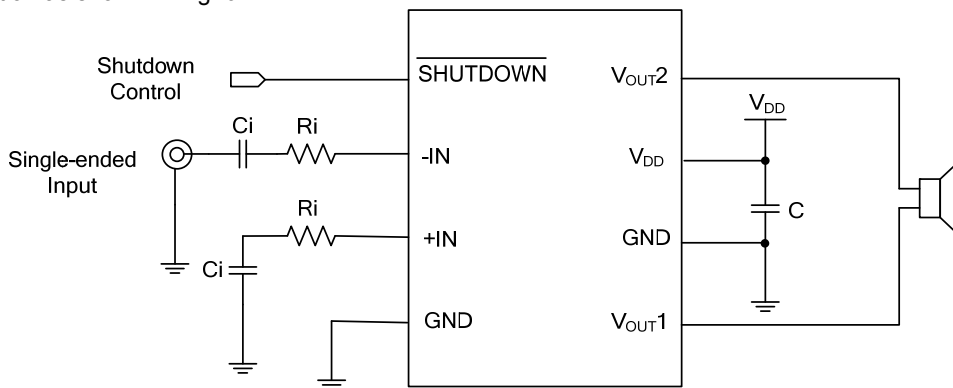

Fig. 6 Single-ended Input Configuration
Of course, the input capacitors can also be used to remove the low audio frequencies. When using the **M4670** single-ended source, power supply noise on the ground is a +IN input pin capacitance-coupled input signals are on the ground (Fig. 6~8). Setting the high-pass filter point above the power supply noise over the frequency of 217Hz in the GSM mobile phone.
The **M4670** can be used for single-ended input capacitance of the source, but will need to enter the terminal to prevent any DC. For the gain equations, Equation (2), frequency response, Equation (3), the typical application configuration as shown in Fig. 6.